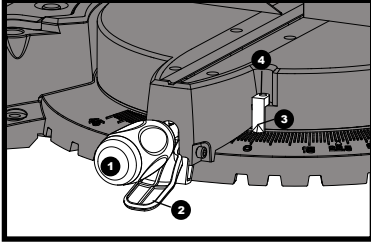

Fig 22
- 1) Unlock the mitre table by turning the mitre handle (1) counterclockwise.
- 2) Move the turntable while lifting up on the positive stop locking lever (2) to align the indicator (3) to the desired degree measurement.
- 4) If the mitre angle desired is not one of the nine positive stops, simply lock the mitre table into position by turning the mitre handle in the clockwise direction. (See fig. 22)
- 2) Loosen the screw (4) that holds the indicator with a Phillips screwdriver.
- 3) Adjust the indicator (3) to the 0° mark and retighten screw. (See fig. 22)